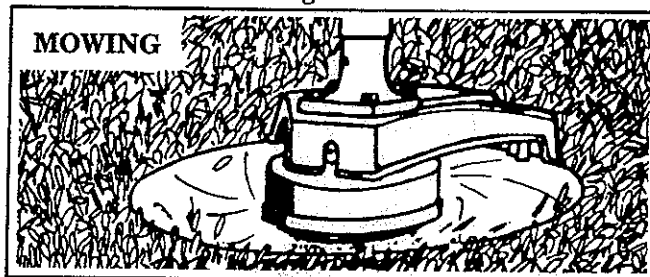

Figure 17
3. **MOWING** – Figure 17. Your trimmer is ideal for mowing in places conventional lawn mowers cannot reach. In the mowing position, keep the line parallel to the ground. Avoid pressing the head into the ground as this can scalp the ground and damage the unit.